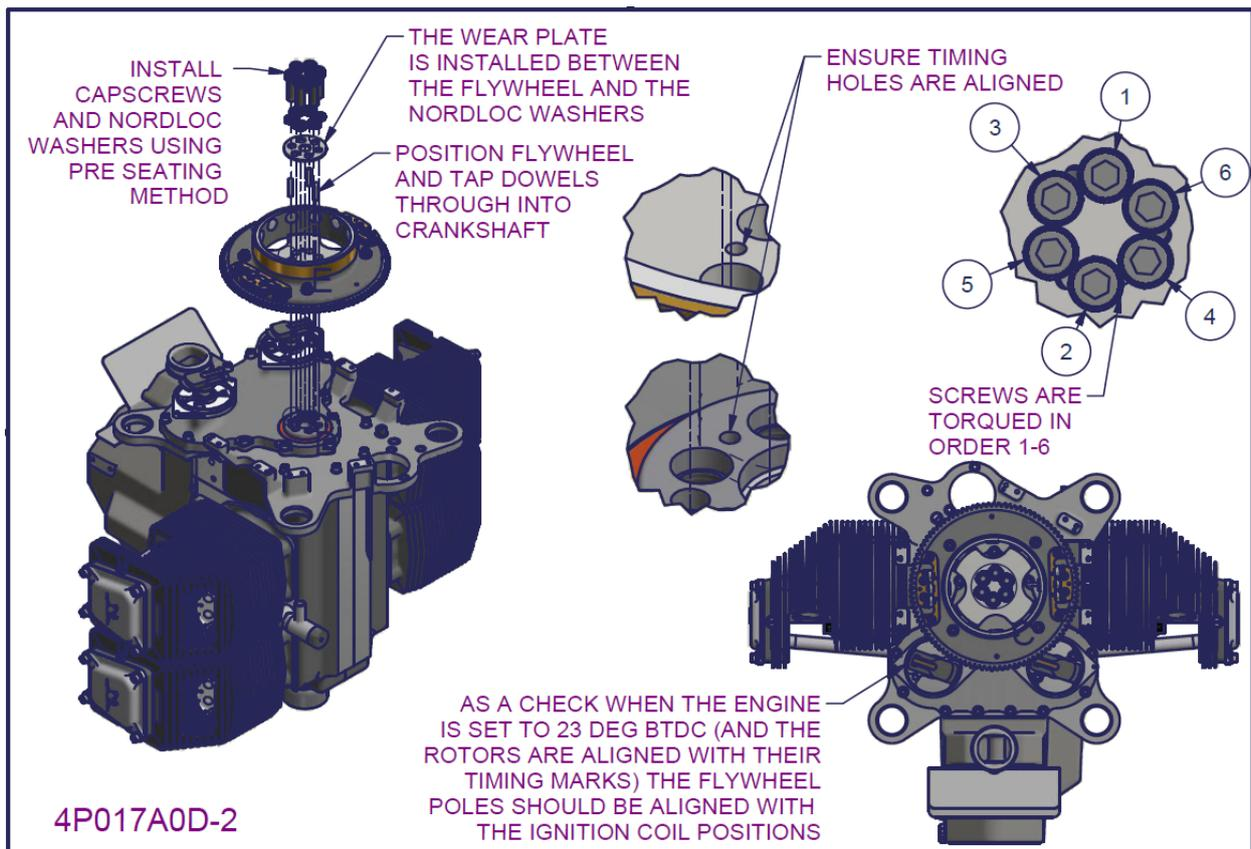

Figure 145 – 2200/3300 flywheel and alternator installation 1
- Tighten each screw to 15ft.lb using the diagonal tightening pattern shown in Figure 145.
- Now tighten each screw to the torque setting prescribed in section 0 using the same diagonal tightening pattern shown in Figure 145.
- Repeat the previous three steps installing the other five screws ONE AT A TIME using the diagonal pattern order shown in Figure 145.
Install capscrews with 6 plain washers to **15ft.lb** and then the **Prescribed Torque** (section 0) progressively using diagonal pattern shown in Figure 145